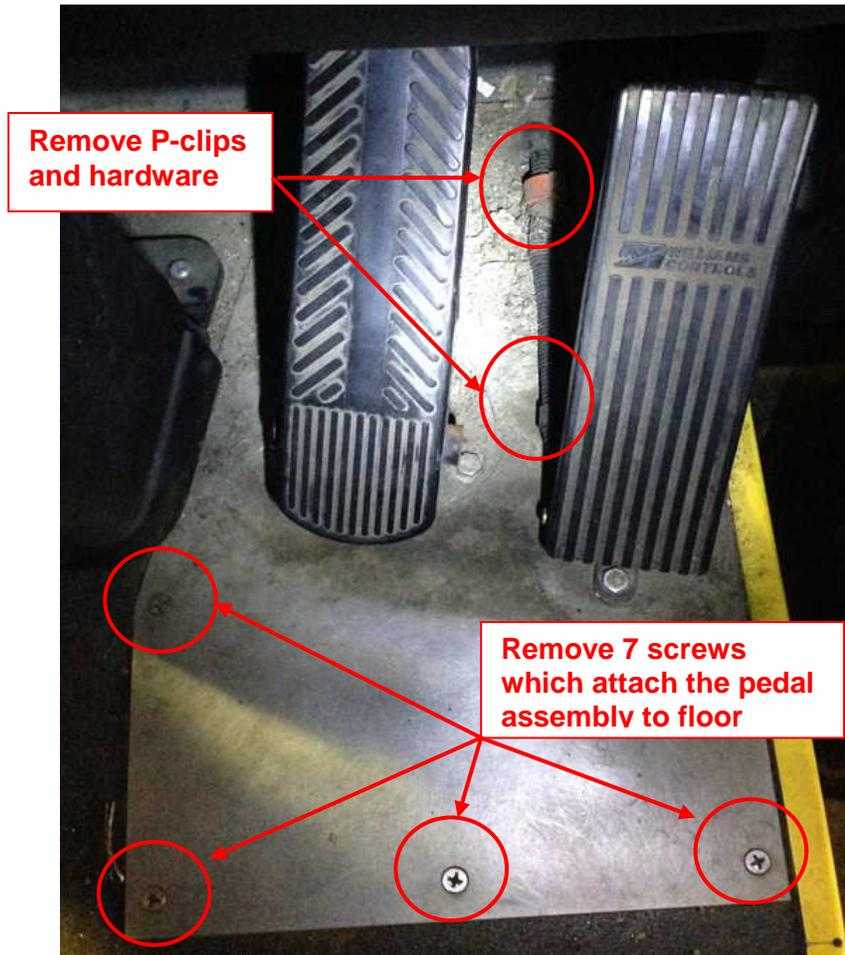

Figure 2: Brake/Accelerator Treadle Assembly
10. Remove p-clips securing the accelerator harness to the brake pedal assembly. Set aside the P-clips and hardware for reuse, see Figure 2.
12. Remove 7 screws which attach brake/accelerator pedal assembly to floor, see Figure 2.